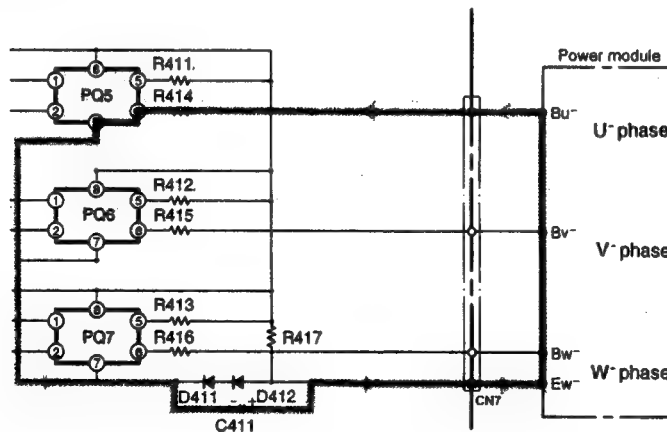

Fig. 7-5
- When pin ②⑥ of the micro computer goes "LO" → "HI", a photocoupler between PQ5 pins ① and ② turn off and reverse bias current flows to C411 → power module's Ew- terminals → Bu- terminals → R414 → PQ5 to cut off the lower arm transistors. (Fig. 7-5)